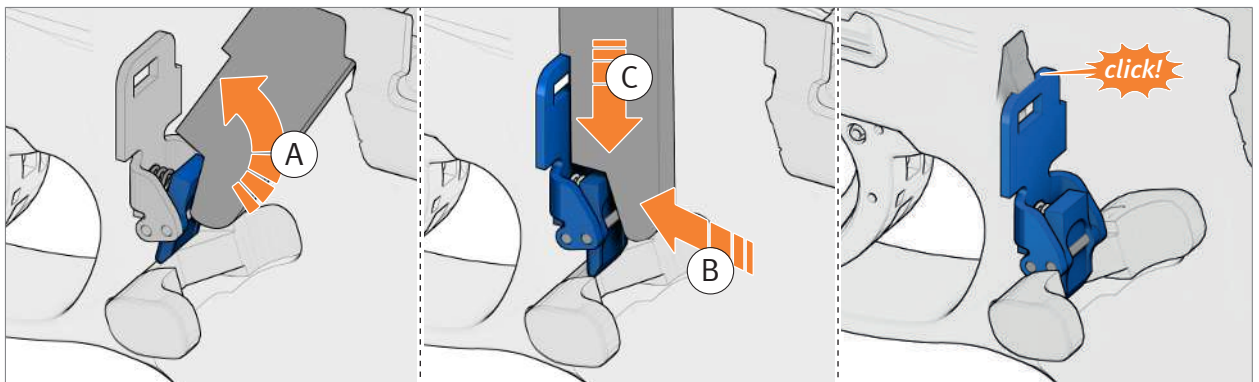

Fig. 36: Latch in the magazine catch
4. Press the detent piece on the magazine catch with the tool and hold it down (Fig. 36).
5. Push the magazine catch downwards until the magazine catch latches (Fig. 36).